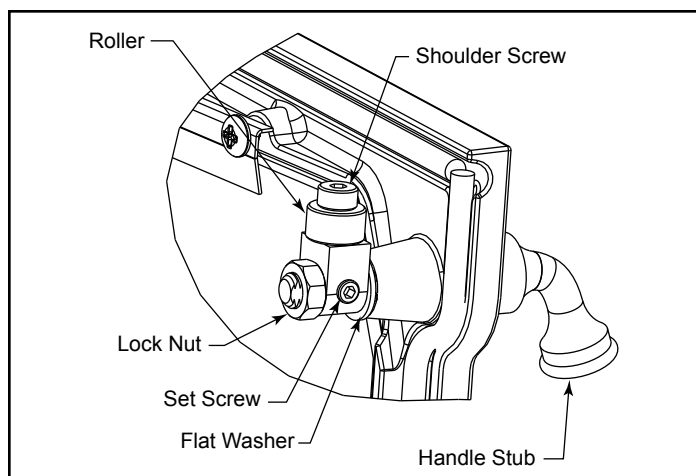

Fig. 44 - Rotate pawl and/or remove flat washer to adjust latch.
1. Remove and retain the lock nut with a 9/16" wrench. (Fig. 44)